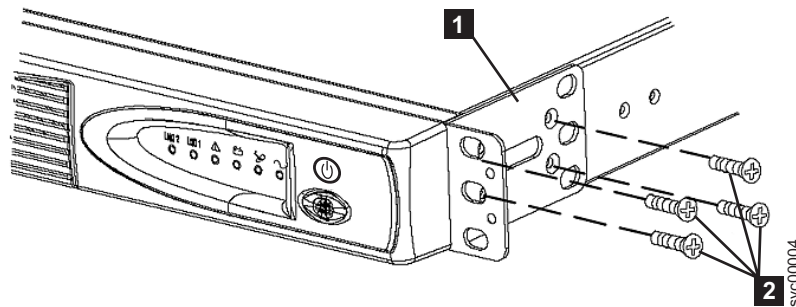

Figure 24. Installing the support rails for a 2145-1U uninterruptible power supply into the rack
3. Attach the long side of a mounting bracket **1** to each side of the 2145-1U uninterruptible power supply using four M3 × 6 screws **2** for each bracket, as shown in Figure 24.